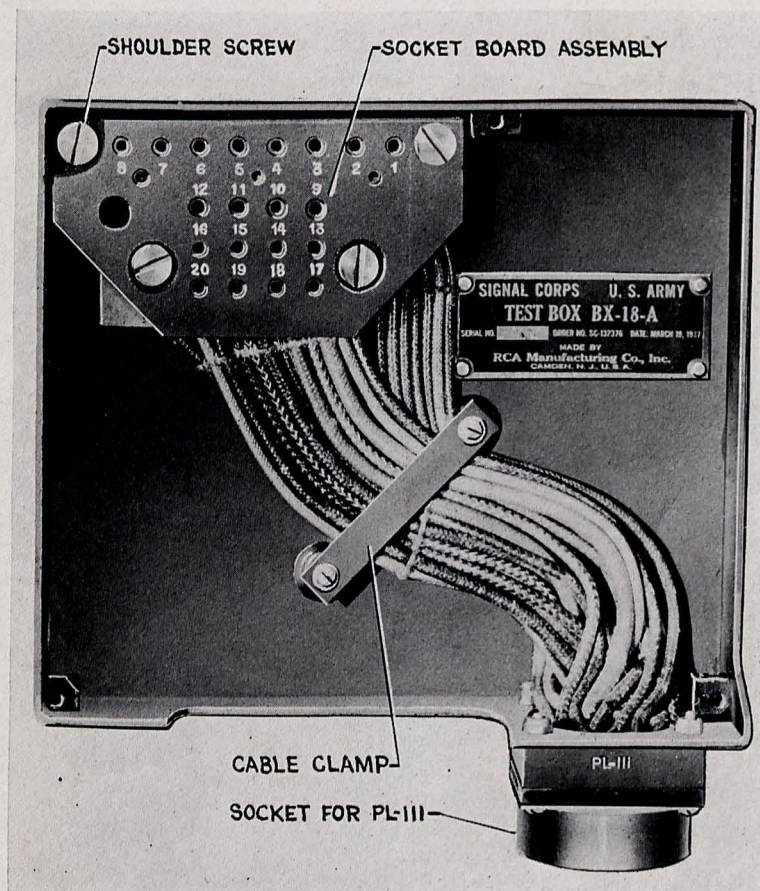

Figure 18—Test Box BX-18-A
- 2-10 **TEST BOX BX-18-A.**—This box is the back section of Radio Control Box BC-311-A with a socket assembly to take Plug PL-111, instead of conduit entrance. The socket assembly is wired to the terminal board inside of the box for proper connection through Plug PL-111 to Junction Box TM-180-A. This test box plus the front operating panel of Radio Control Box BC-311-A functions therefore the same as a normal complete Radio Control Box BC-311-A and is used for test purposes. (See Figure 18.)
After the back of Radio Control Box BC-311-A is mounted rigidly in place, wires from the conduit entrance to the terminal board must be carefully placed and dressed so that sufficient clearance is provided for compass control R36-2 and jack J1-2 at the rear of the front panel of Radio Control Box BC-311-A. The wiring should be dressed along the bottom of the back of the control box directly at the point where wires emerge from rigid conduit and should be free from kinks and have a minimum number of cross-overs to provide clearance required. Wires may be dressed as shown in Figure 18 for Test Box BX-18-A or within dotted line shown in Figure 11.